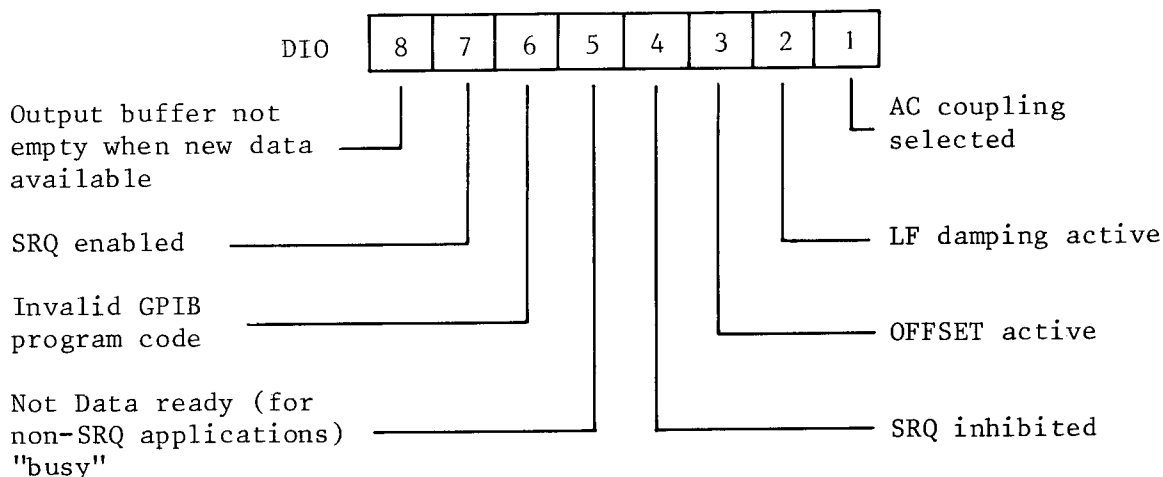

Fig. 7 Status byte
32. A status byte is prepared following receipt of Serial Poll Enable (SPE) or when 2610 raises SRQ. This consists of 8 bits, each of which is set true under the conditions shown in Fig. 7 and is sent to the controller when 2610 is addressed as a talker.